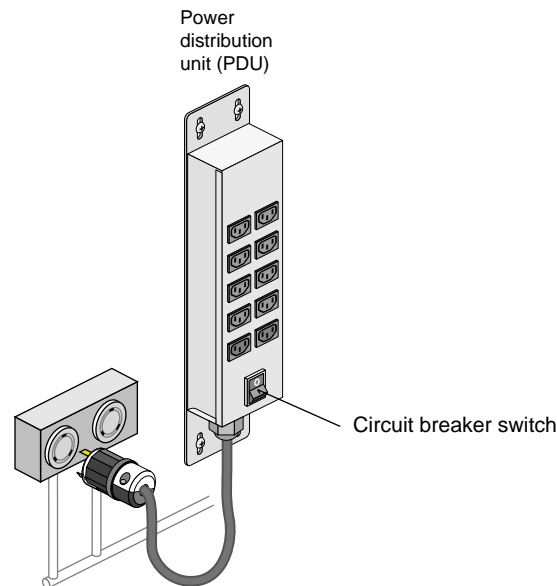

Figure 2-16 PDU Circuit Breaker Switch
2. Turn on the circuit breaker switch of the PDU as shown in Figure 2-16.